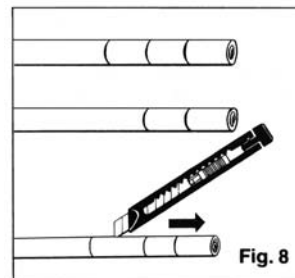

Fig. 8
**G. Open the tool** and remove the stripped cable, see fig. 8. Remove the stripped parts. If the insulation is hard to remove, use a knife to slit it open, fig. 8. If the center conductor is too long, adjust this with a cutter.